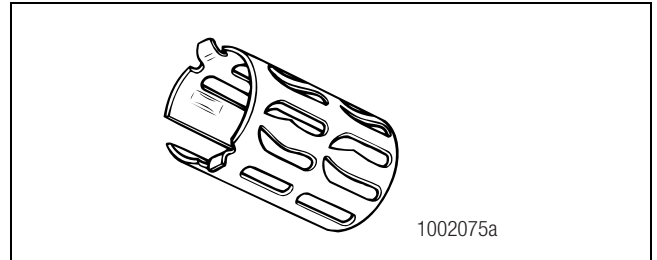

Figure 2.3
- Holds the wheel speed sensor in close proximity to the tooth wheel. Figure 2.3.